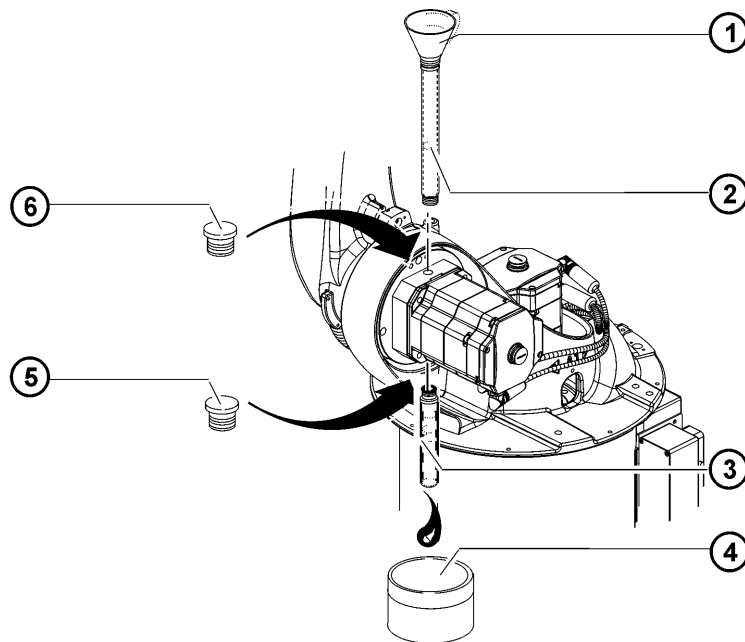

Fig. 9-11: Oil change on axis 2
1. Place a suitable receptacle under the oil drain hole (>>> Fig. 9-11).
1. Screw in the hose at the top (>>> Fig. 9-11).